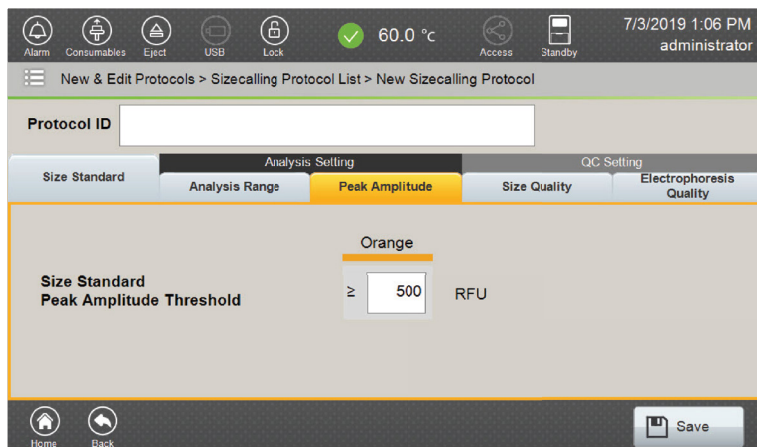

Figure 132. 'Peak Amplitude' tab.
Peak Amplitude Threshold	<p>Defines the minimum RFU value at which to size and call a peak. Peaks below this threshold will not be called, but peaks below the threshold will still be displayed (range allowed by software is 1RFU to 30,000RFU) (Figure 132). A threshold must be set for the dye channel used for the size standard. Peaks in the size standard must exceed the peak amplitude threshold value set in the Sizecalling Protocol in order for that peak to be considered in the sizecalling algorithm. If a peak or peaks in the size standard fall below the peak amplitude threshold, it may result in a reduced SQ and EQ value for that sample. Thresholds are generally set to be the same as those used for secondary analysis.</p>
7. Select the 'Peak Amplitude' tab to reveal the options for setting the size standard peak amplitude thresholds (Figure 132).